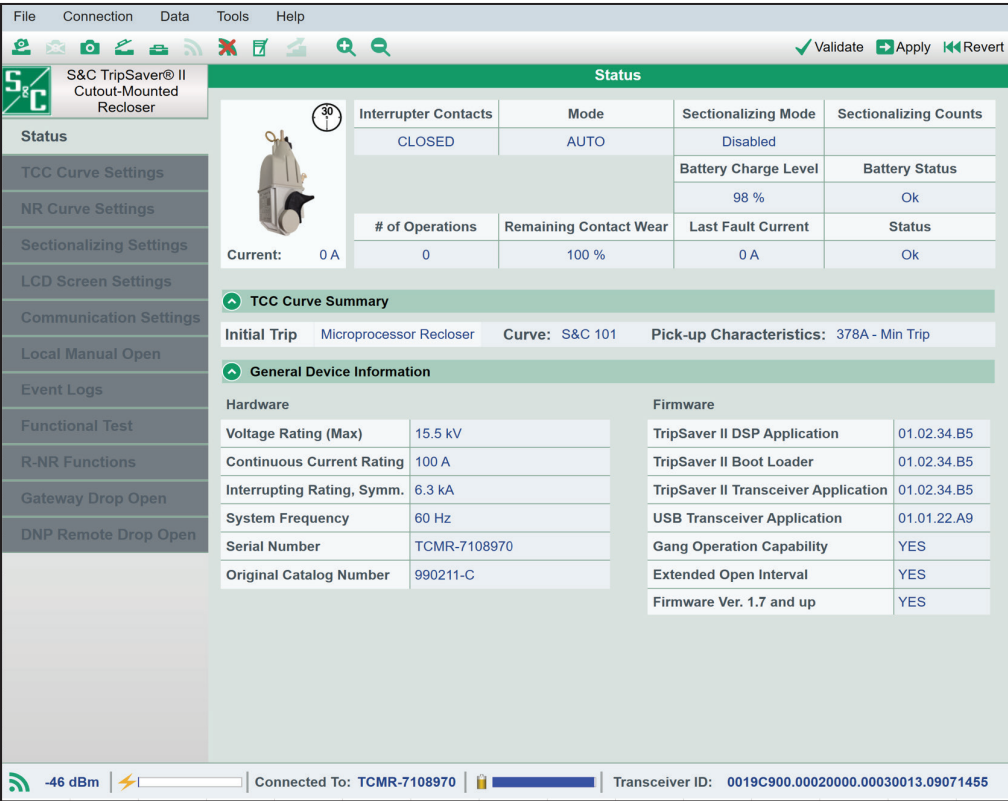

Figure 24. The Status screen after a successful profile restoration.
STEP 6. Check the *Status* screen to make sure the profile information has been successfully restored. See Figure 24.